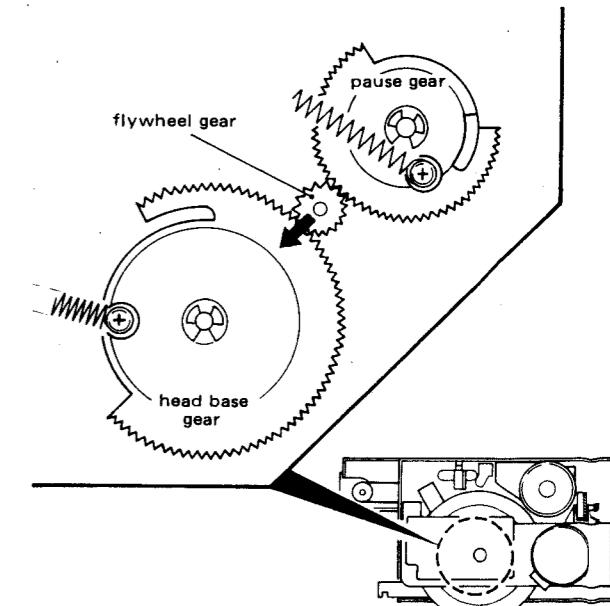

Fig. 4-4
Mount both the pause gear solenoid (17) and head base gear solenoid (18) so that they are positioned as far as possible in the direction of their respective plungers. (For an illustration of the pause gear and the head base gear, see Fig. 4-4).
Position the capstan metal housing so that the flywheel gear (attached to the flywheel shaft) is positioned as far as possible towards the head base gear as shown in Fig. 4-4.
**Note:** When the pause gear (refer to Fig. 4-4), pause arm (15), adjust plate (13), reel motor (20) and/or take-up gear assembly (5) are reinstalled or replaced, this adjustment must be made.